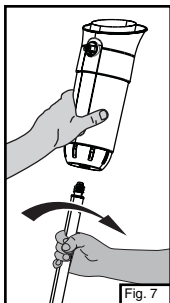

Fig. 7
- Thread pole assembly into bottom collar. (Fig. 7)